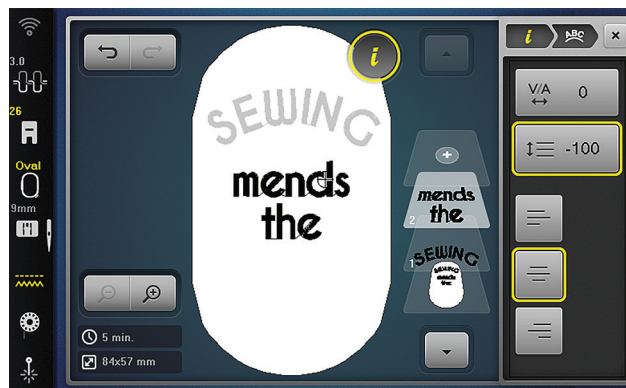

Fig. 16
10. Open Word Art. Set the line spacing to -100 and select Center Justification (Fig. 16).